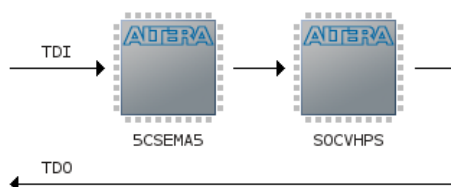

Figure 8-20. JTAG Scan Chain
You should now see 2 devices on the JTAG scan chain, as shown in Figure 8-20.
42. Right-click on the “5CSEMA5” device shown in Figure 8-20 and choose “Edit > Change File”. Then, select “DE1_SoC_demo/hw/quartus/output_files/DE1_SoC_demo.sof” through the file browser.